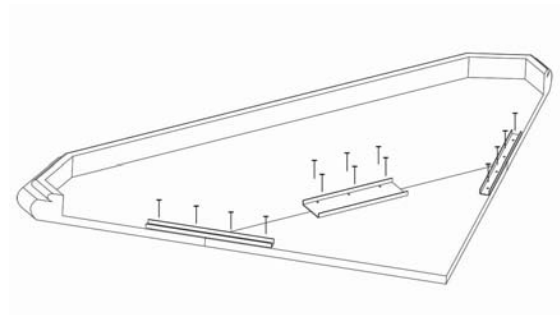

Figure 5
7. Turn up the back of mantel top, the special spring will lock the rear mantel top in position, then use 14 screws to secure bracket as show in Figure 5 make sure the front and rear mantel top are in the same level.